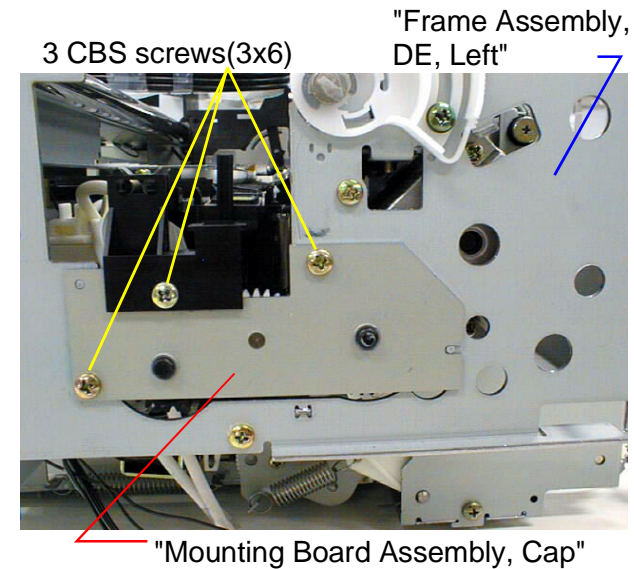

Figure 4-30. Mounting Board Assembly, Cap Removal
4. Remove one CBS screw(3x6) securing pump unit and "Frame Assembly, DE, Left". (Refer to Figure4-30)
5. Remove 2 CBS screws(3x6) securing "Mounting board assembly, Cap" and "Frame Assembly, DE, Left", and remove "Mounting board assembly, Cap". (Refer to Figure4-30)